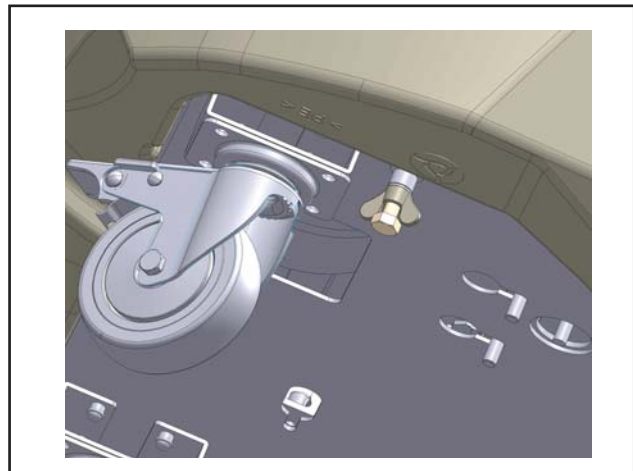

Fig. 12: Removing load cell retention bolt
1. On the underside of the unit (towards the front) there is a screw with a wingnut threaded into the base. Loosen the wingnut and unscrew bolt (Fig. 12).